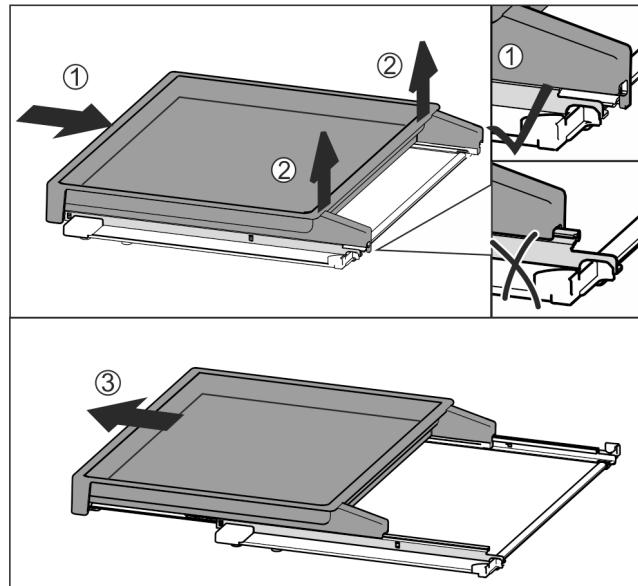

Fig. 112
- ▶ Slide the pull-out board all the way in *Fig. 112 (1)*.
- ▶ Release the clips at the back *Fig. 112 (2)*.
- ▶ Remove the pull-out board from the front *Fig. 112 (3)*.